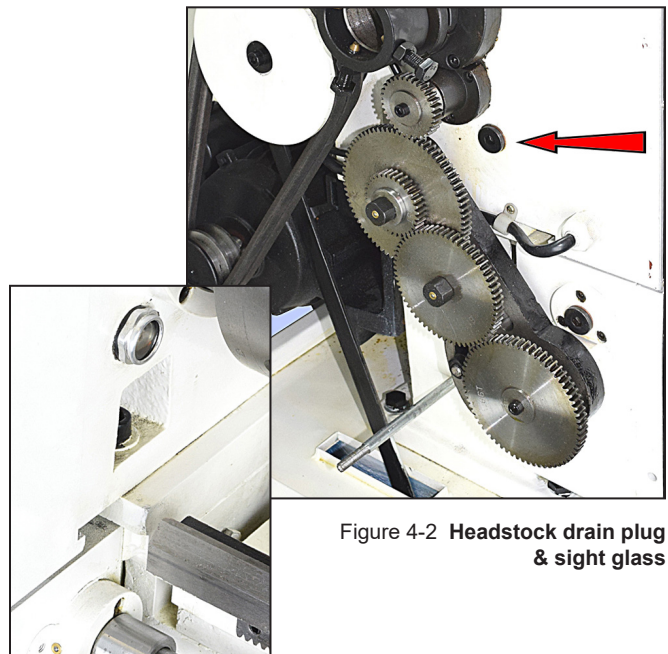

Figure 4-2 Headstock drain plug & sight glass
6. With the drain channel in place, remove the drain plug, Figure 4-2.